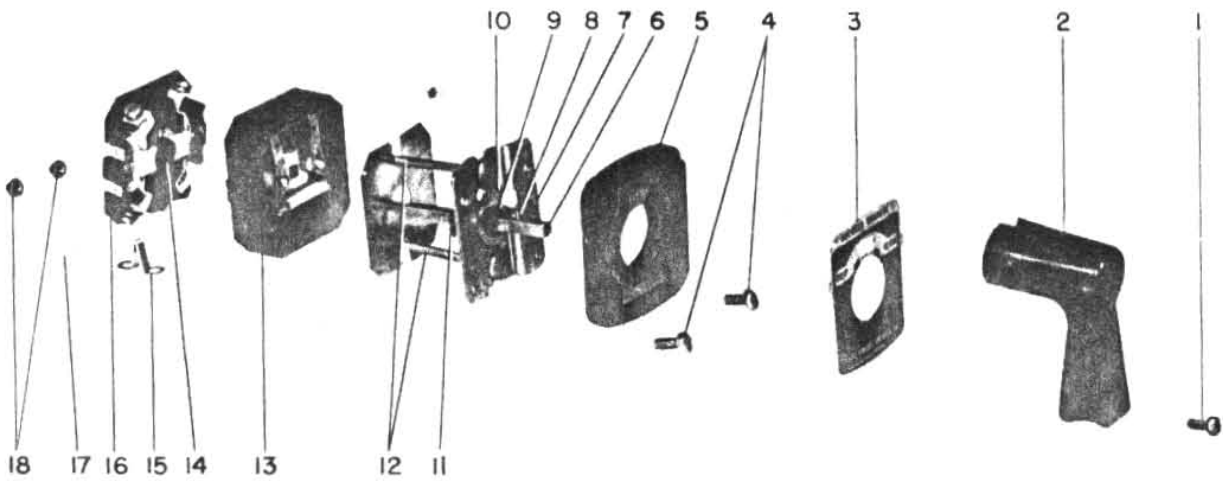

Fig. 1—Exploded View of C77 Control Switch (Fixed Handle Type)
(Refer to Fig. 1)
2. Lift spring (1) out and remove moving contact (2) and lift out stationary contact (3) from its recessed molding (5). Replace stationary contact (3), moving contact (2) and spring (1). Re-assemble entire stages as before.
**NOTE:** (Refer to Fig. 1)